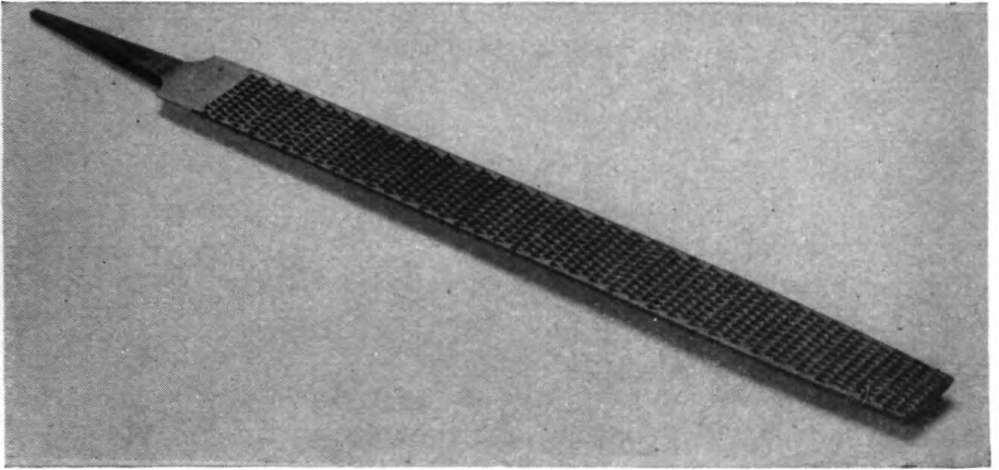

*Figure 107. Pocket knife.*
*i. KNIFE.* The knife used most frequently by the airplane mechanic will be the three-bladed pocket knife shown in figure 107. It is used for a variety of purposes. One blade is usually kept sharp and used as any other cutting tool is used. One blade is usually left dull and is used to remove insulation from electric wiring. To prevent accidents, the blades should always be closed when not actually in use.